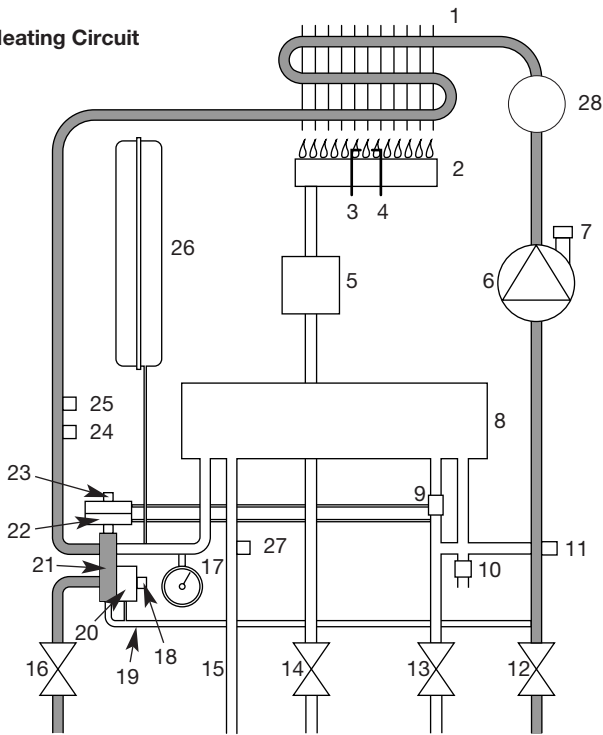

Fig. 2
3.1 Central Heating Mode (Fig. 2)